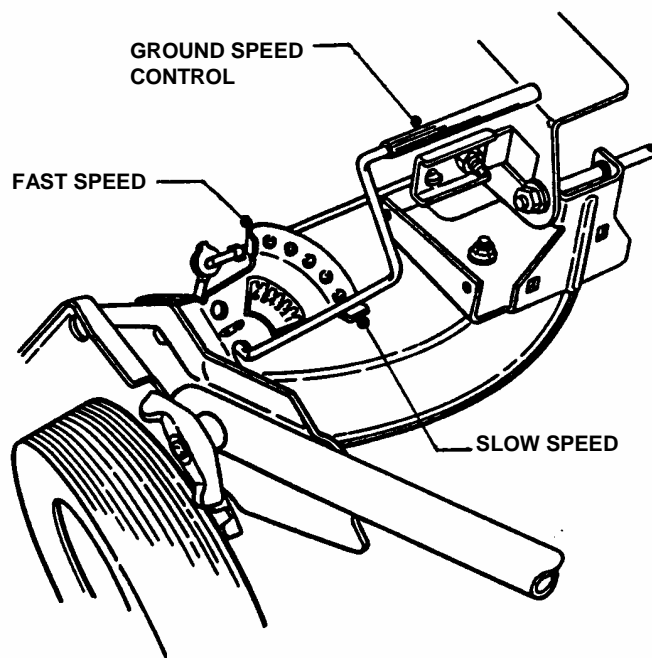

FIGURE 2.5
1. Stop engine and mower blade by releasing the blade control before adjusting ground speed. Move ground speed control to the desired speed position. See Figure 2.5.